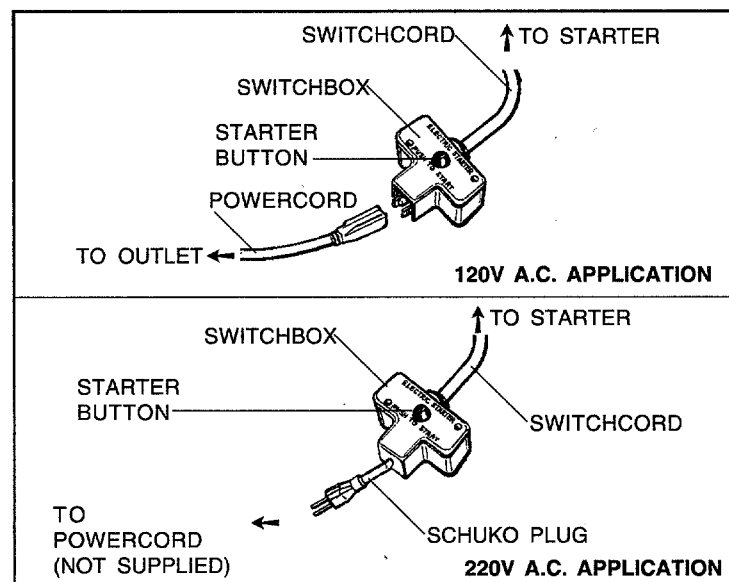

Figure 5
② ELECTRIC STARTER (see Figure 5)
B. Plug other end of power cord (see Figure 5) into wall receptacle.
F. Push starter button (see Figure 5) or turn ignition switch key (see equipment manufacturer's instructions) to crank engine.
I. Disconnect power cord (see Figure 5) from wall receptacle first, and then from switchbox on engine.